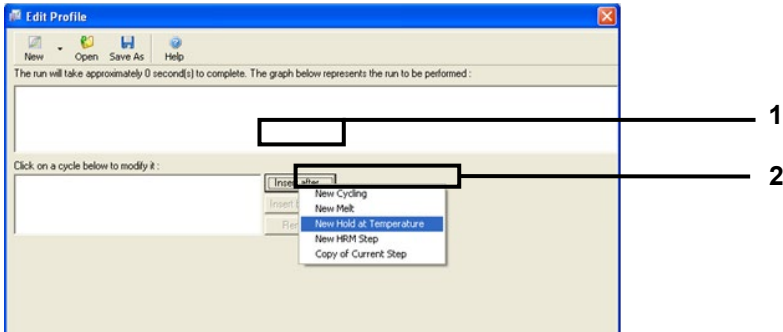

Figure 4. Inserting an initial incubation step (1 = "Insert after"; 2 = "New Hold at Temperature").
6. Click **Insert after** and select **New Hold at Temperature** (Figure 4).